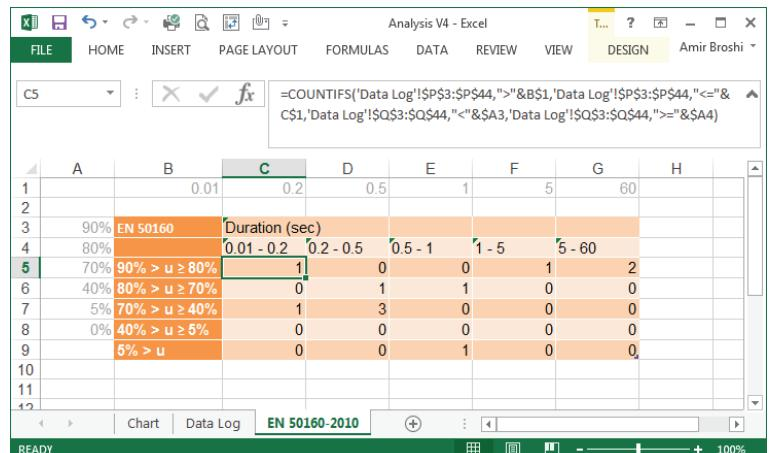
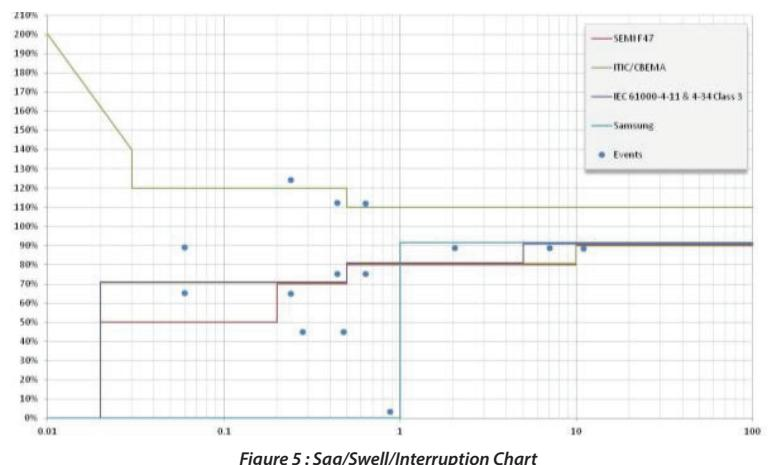

Figure 4 : Saq/Interruption EN50160 Classification
Figure 5 : Sag/Swell/Interruption Chart
9. The results were classified according to EN50160 cells (Figure 4) and plotted using Excel standard XY scatter chart, together with the various sag/swell standards – CBEMA/ITIC, SEMI F47, IEC 61000-4-11, IEC 61000-4-34 and Samsung Power Vaccine (Figure 5).